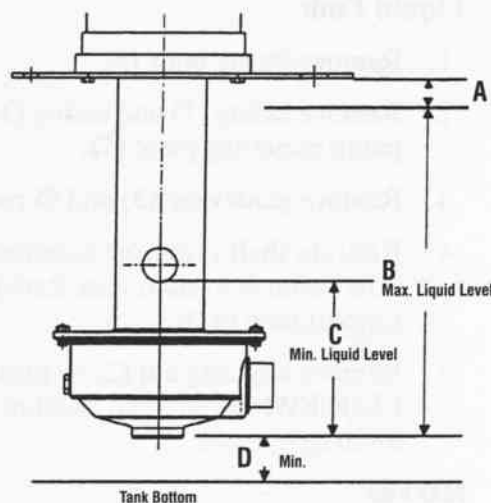

Figure 1
- Minimum and maximum liquid levels must be maintained for proper pump operation. See Figure 1.
- Suction intake should be above the minimum distance from tank bottom. Tank must be kept free of debris. See Figure 1 for minimum (D) setting.
- Use a foot valve only when necessary to hold prime during intermittent service where tank liquid level does not return to minimum depth before pump is re-started. See Figure 1.